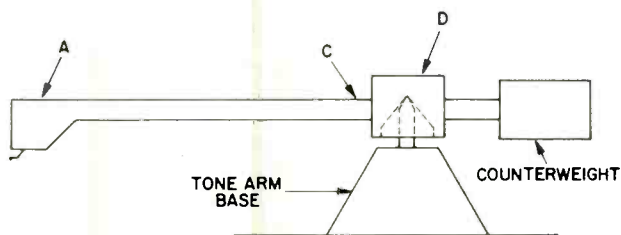

Fig. 6—Sections of a tonearm include A, the cartridge mount; B, the tonearm tube; C, entry point of the tube into the pivot block, D, and E, the counterweight.
Let us look at the tonearm itself (Fig. 6). On the left in our drawing is the pickup mount (A) which is connected to the tonearm proper (let us call it a tube since this is easier to illustrate, though we should remember it could take any of several design configurations). The tubular arm ends on the right side (C) and is mounted into a massive block (D), whose action will be described shortly. What shape should the tube be? Straight or "S" shaped? Strangely enough, whether a tonearm is straight or "S" shaped, it will still act as though it were a straight arm (Figs. 7A and B). The lever factor of the arm tube is governed, not by the "S" (Fig. 8), but rather by the straight pivot-stylus distance between points A and B (Fig. 9). If the "S" in the tube is rigid between points A and B, then the lever factor is exactly the same as if a straight tube were used between points A and B. As a matter of fact, it really doesn't matter what the shape of the arm is between points A and B; it could be "S", "V", "U", or any other shape but it would still react as a straight tube tonearm. However, if the "S" in the arm is in some way flexible, then the ratio of the distance between Points A and B and the curving length of the "S" would vary. But if the tonearm were flexible, one would not consider it a good tonearm for use in any quality system. To repeat, if the tonearm flexes in any direction, it cannot be considered for use in a high quality system. A tonearm must be absolutely rigid over its full length if it is to properly transport the pickup.